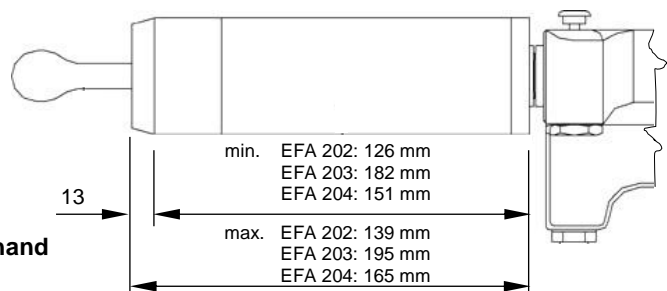

Fig. 6.5 – Blade length
- The minimum blade length, see Fig. 6.5: